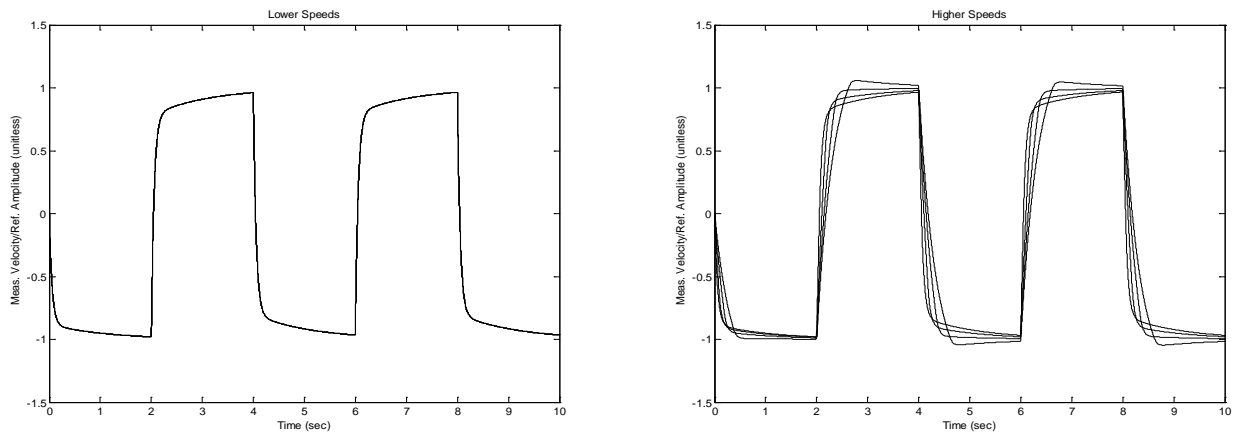
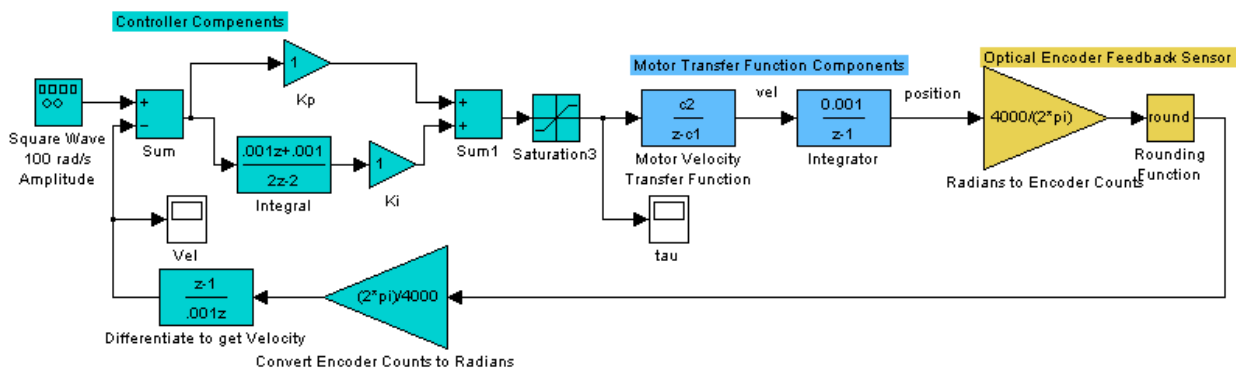

Figure 1: Normalized responses for reference amplitudes 1,2,3,4 rad/sec (left) and 100,200,300,400 rad/sec (right)
Figure 2: Simulink Block Diagram for PI control of DC Motor
1. You will design a proportional plus integral (PI) controller to regulate the speed of the DC motor. For reasons you must explain below, you will not be able to place the closed-loop poles of your system using classical techniques, or be able to determine from the closed-loop transfer function whether your controller meets given specifications; these approaches simply will not work. Instead, you must use a simulation's time response to design this controller 'by hand', iteratively tuning the K_p and K_i gains and checking the output of your model. You may wonder why traditional approaches do not work, so in preparation for this lab, we simulated the motor response of a PI controller (the block diagram is shown in Figure 2 below, with K_p and $K_i = 1$). To make the discussion easier on you, we eliminated the encoder quantization because this isn't the problem in this case. We tested the response for reference velocity commands at lower speeds of 1,2,3,4 rad/sec (left plot of Fig. 1 below) and at higher speeds of 100,200,300, 400 rad/sec (right plot of Figure 1 below). We divided the measured velocity by the amplitude of the reference so we can appropriately compare the responses. For example, for a reference signal of 400 rad/sec amplitude square-wave, the measured velocities are all divided by 400. The lower velocity responses (1,2,3 and 4 rad/sec reference commands) *all produced the same curve* while the higher velocity responses are all *separate curves*. Why does this result show you that classical control techniques will not work if we want to track responses in the range of 100 to 400 rad/sec?
Use **Figure 2** as a guide to create a SIMULINK model, and use the values of c_1 and c_2 you identified, sampling every 1ms, in the previous lab for the dynamics of the motor. Using this diagram, design a controller with the following specifications: